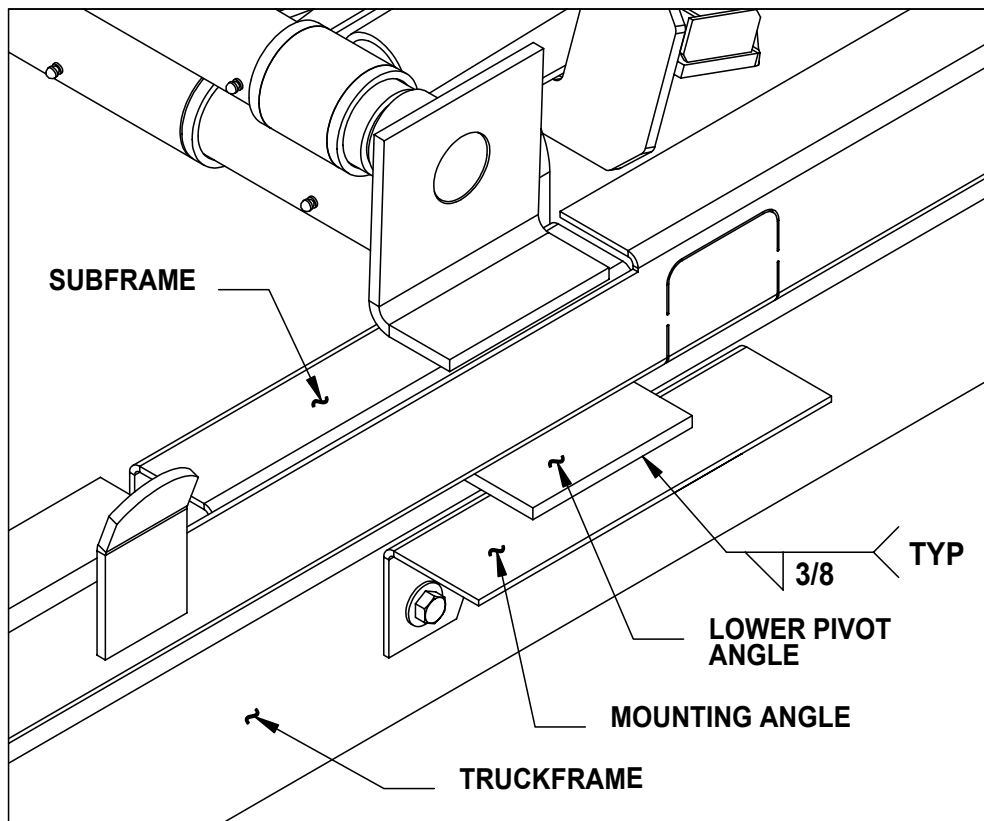

FIGURE 4b
- I. Weld each end of the lower pivot angle to its mounting angle as shown in Dwg. 520608 Figure 4b. Note the welding symbols. Do not weld to the truck frame.